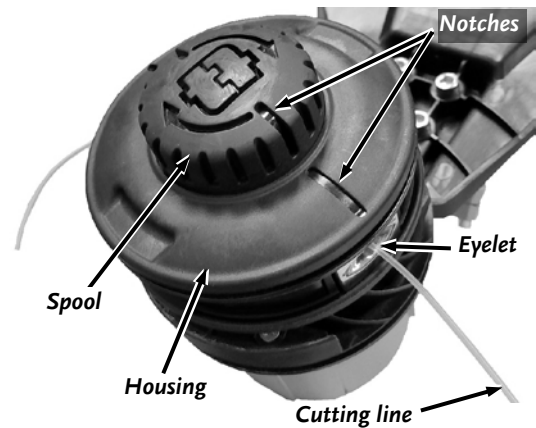

Figure 18
4. Line up the notches of the Spool with the notches in the Housing (**Figure18**).